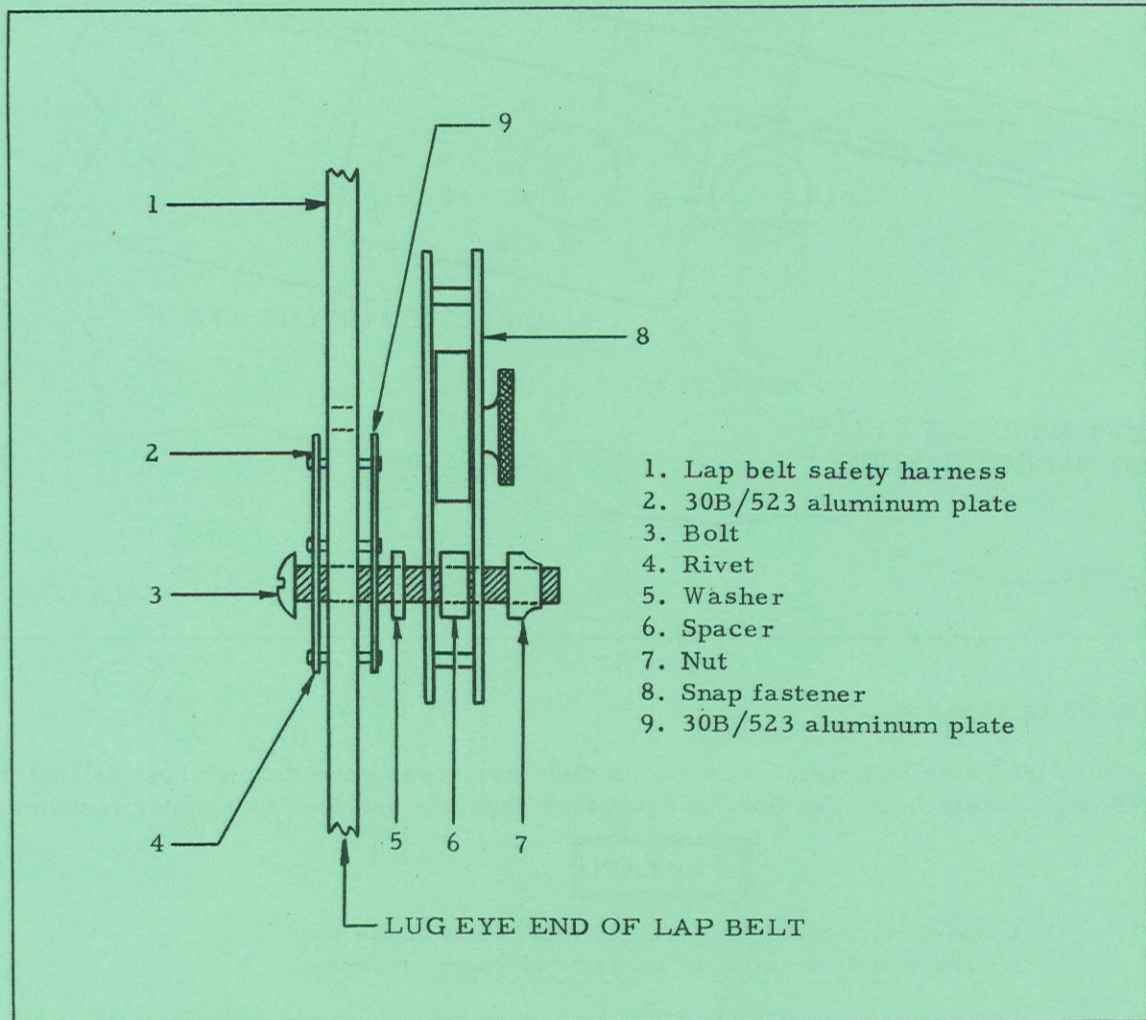

Figure 2
- (e) Attach snap fastener to lap belt in sequence as illustrated by Figure 2.